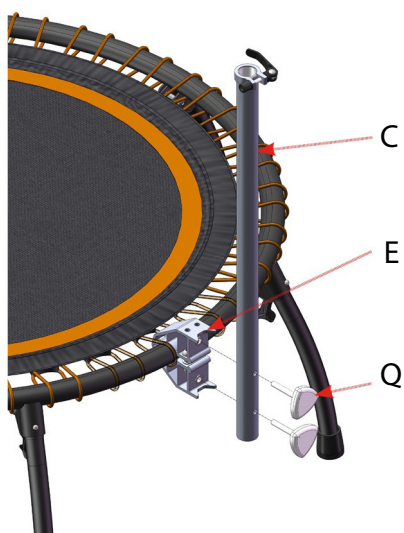

Fig. 10
Use the knobs (Q) to mount the support tube (C) to the clamp (E) (fig. 10).